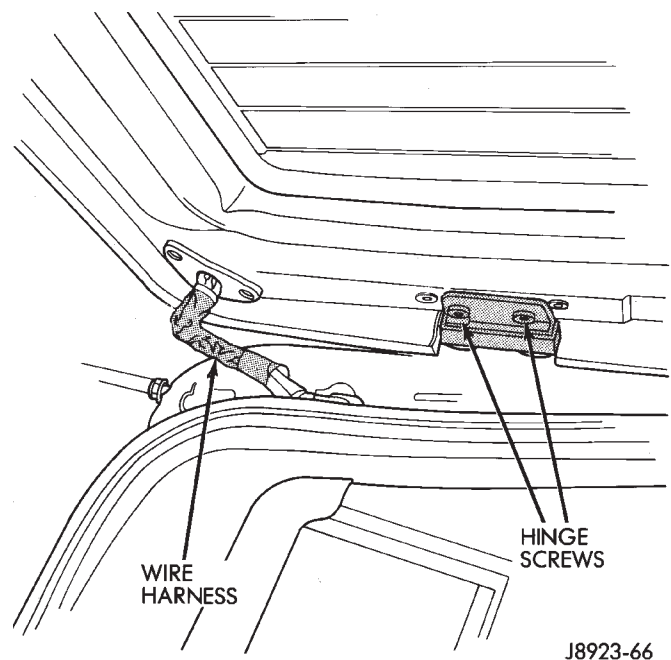

Fig. 113 Liftgate Wire Harness and Hinge Screws
- (6) Disconnect the connectors and remove the wire harness from the liftgate (Fig. 113).
- (7) Remove the hinge-to-liftgate screws.
- (8) Remove the liftgate from the vehicle.